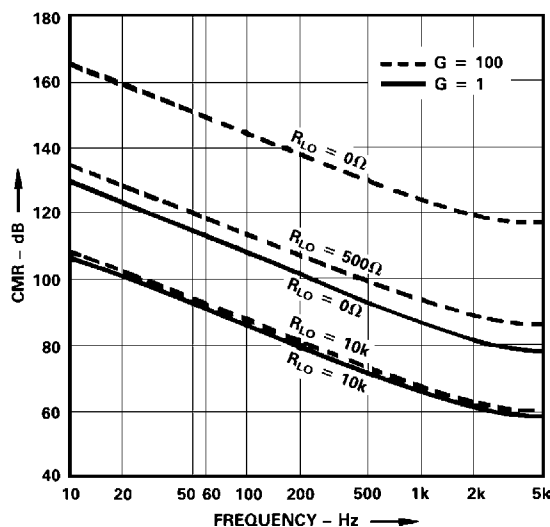

Figure 10a. AD204
**Common-Mode Performance.** Figures 10a and 10b show how the common-mode rejection of the AD202 and AD204 varies with frequency, gain, and source resistance. For these isolators, the significant resistance will normally be that the path from the source of the common-mode signal to IN COM. The AD202 and AD204 also perform well in applications requiring rejection of fast common-mode steps, as described in the Applications section.